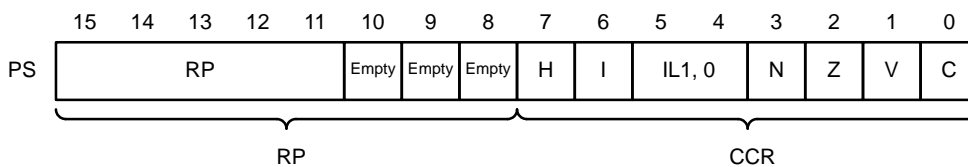

Fig. 2.5 Structure of Processor Status
- Program counter (PC) 16-bit long register indicating location where instructions stored
- Accumulator (A) 16-bit long register where results of operations stored temporarily; the lower byte is used to execute 8-bit data processing instructions.
- Temporary accumulator (T) 16-bit long register; the operations are performed between this register and the accumulator. The lower one byte is used to execute 8-bit data processing instructions
- Stack pointer (SP) 16-bit long register indicating stack area
- Processor status (PS) 16-bit long register where register pointers and condition codes stored
- Index register (IX) 16-bit long register for index modification
- Extra pointer (EP) 16-bit long register for memory addressing
The 16 bits of the program status (PS) can be divided into 8 upper bits for a register bank pointer (RP) and 8 lower bits for a condition code register (CCR). (See Figure 2.5.)